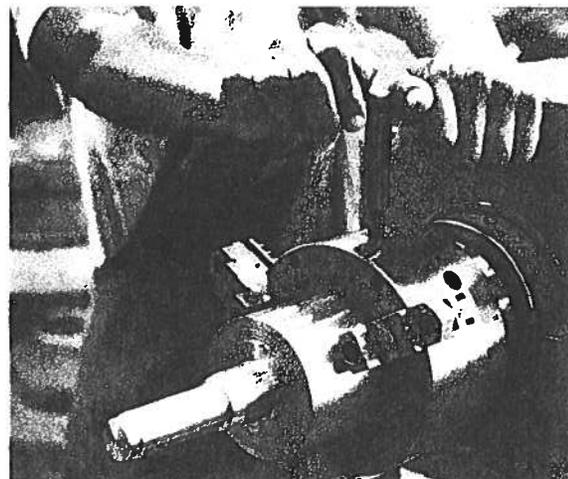

Fig. 3-7 Cutting tools and workpieces must be tightened securely for safe operation.
2. Be sure to tighten workpieces and cutting tools securely in machine tools, so that cutting pressures cannot loosen them (Fig. 3-7).